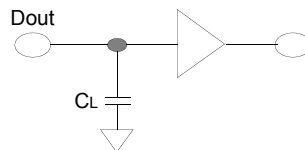

Figure 25. Output Load
- Output load (See Figure 25): $CL=50$ pF